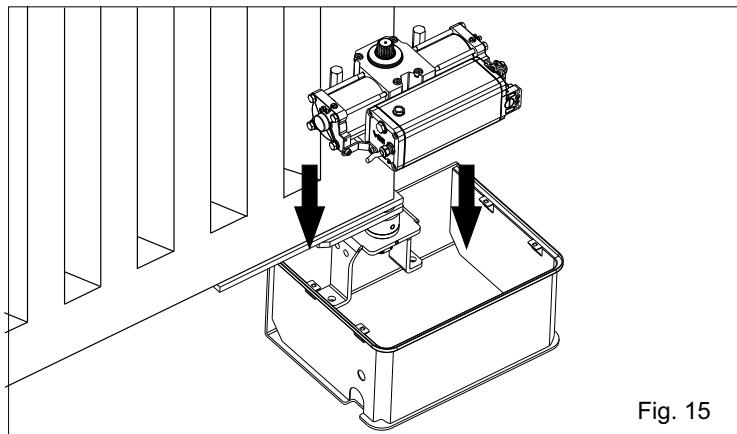

Fig. 15
4.1. Insert manually the operator into the carrying box (Fig. 15) also insert the splined shaft of the operator into the splined bush of the box and fix the operator with the special screws as in Fig. 17.